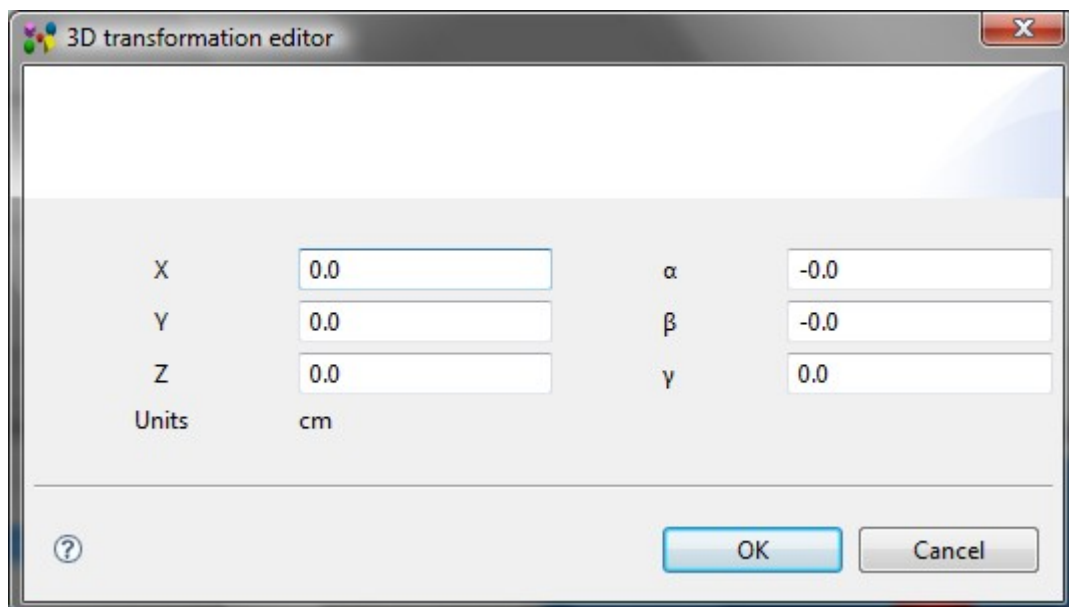

Figure 3. 3D transformation editor
- Click on the cell in the **Transformations** column. The **3D Transformation editor** appears on the screen to change transformation of a 3D object if needed (see Figure 3):